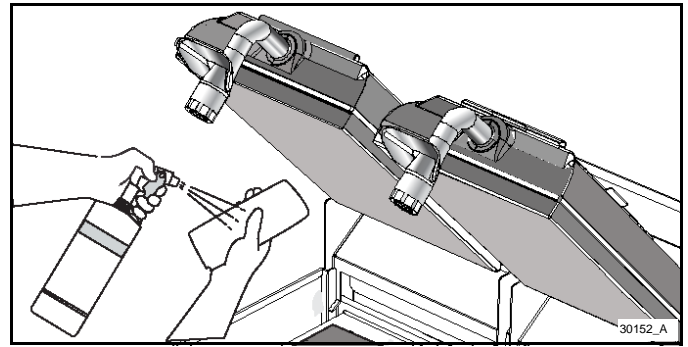

Figure-142
9. Spray a clean, sanitizer-soaked grill cloth with one spray of grill cleaner. See Figure-142.